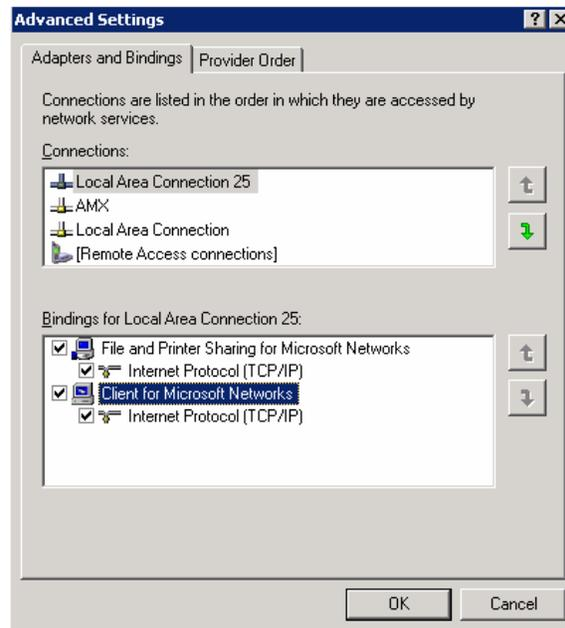
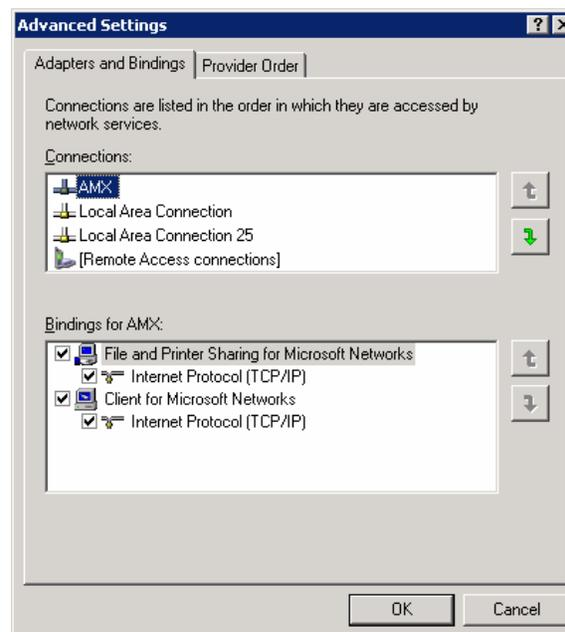

FIG. 105 Advanced Settings window
FIG. 106 Moving the Local Area Connection
- From the *Advanced* menu, select *Advanced Settings...* to open the *Advanced Settings* window (FIG. 105).
- Under the *Adapters And Bindings* tab, the user needs to make sure the *Local Area Connection* is not at the top of the *Connections* list. If it is at the top of the list (FIG. 105), select it and use the *down* arrow to the right of the list to move it to the bottom of the list (FIG. 106).